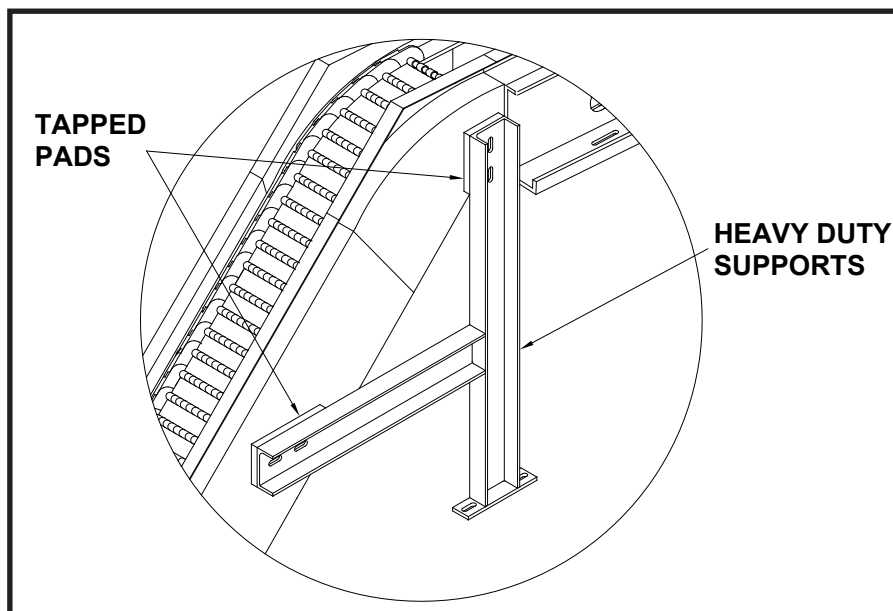

FIGURE 2
Standard heavy duty supports are always shipped assembled. See FIGURE 2 for component breakdown.
1. If supports have been provided bolt them to the frame. Generally there are tapped pads welded to frame sections for the supports to bolt up to. See FIGURE 2.